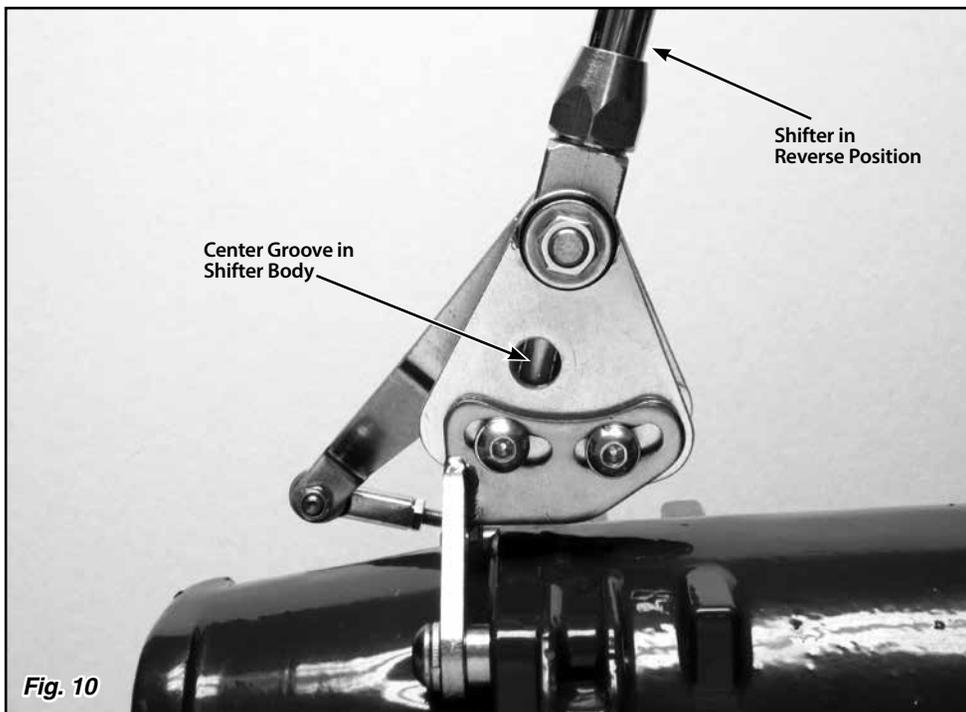
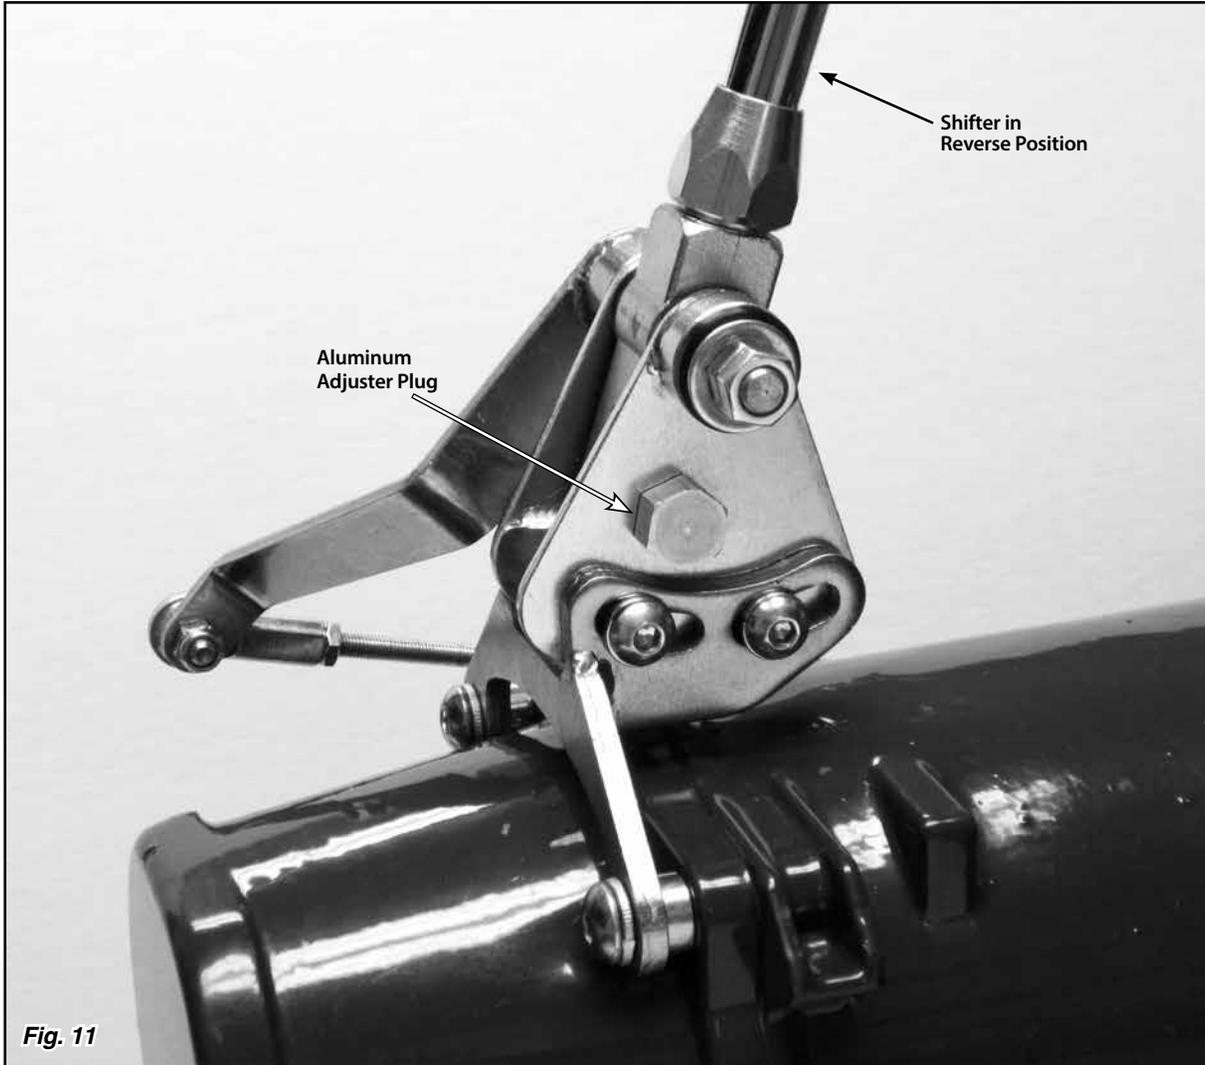

Fig. 10
Fig. 11
Step 16: Put the Shifter into the Reverse position. Reposition the switch plate so that the hole in the switch plate lines up with the center groove in the shifter body. **Fig. 10** Screw the provided aluminum adjuster plug into the neutral safety switch opening. Wiggling the switch plate slightly forward and back while you are screwing the aluminum adjuster plug in will help get the shifter body centered on the adjuster plug. **Fig. 11**
- If there are (2) connections for a neutral safety switch, run a #12 (or heavier) stranded wire from these terminals in your fuse panel to the (2) terminals on the neutral safety switch. That completes the Neutral Safety Switch wiring.